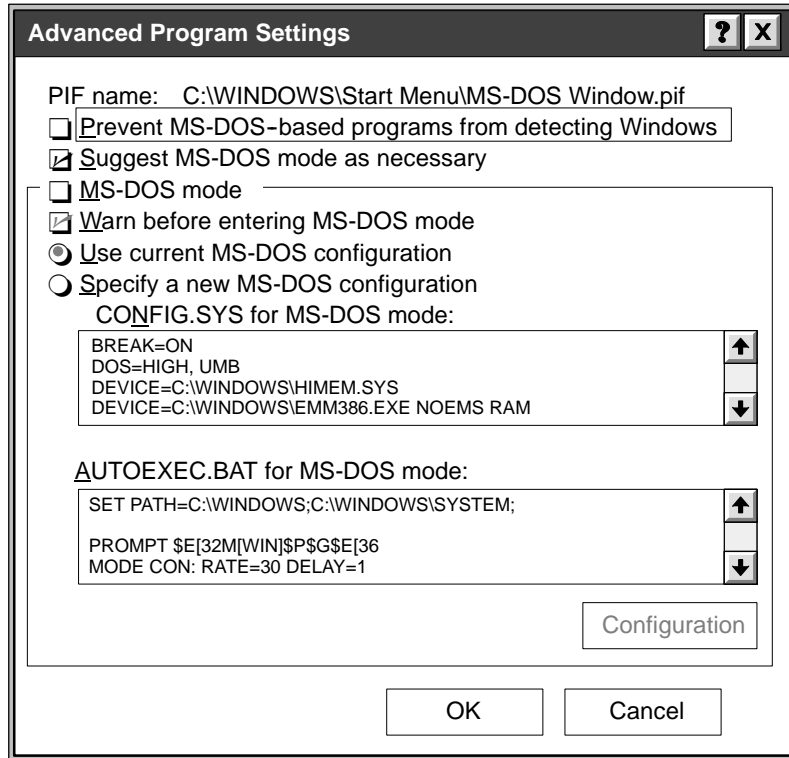

Figure D-4 Advanced Program Settings Dialog Box
2. Select the **Program** tab, and then select the **Advanced** button to access the Advanced Program Settings dialog box (Figure D-4).